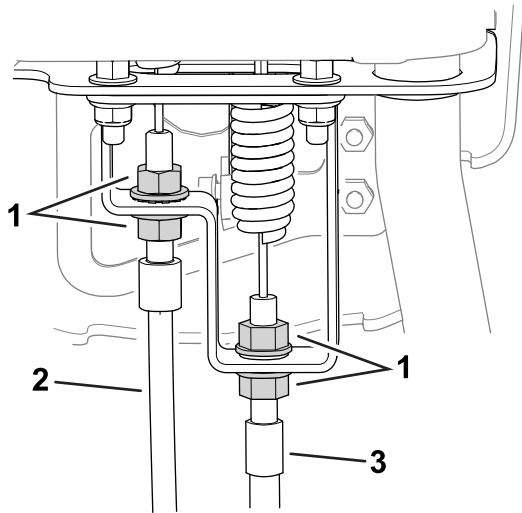

Figure 50
2. At the control-handle bulkhead, loosen the reel-control cable until there is slack in the cable (Figure 50).